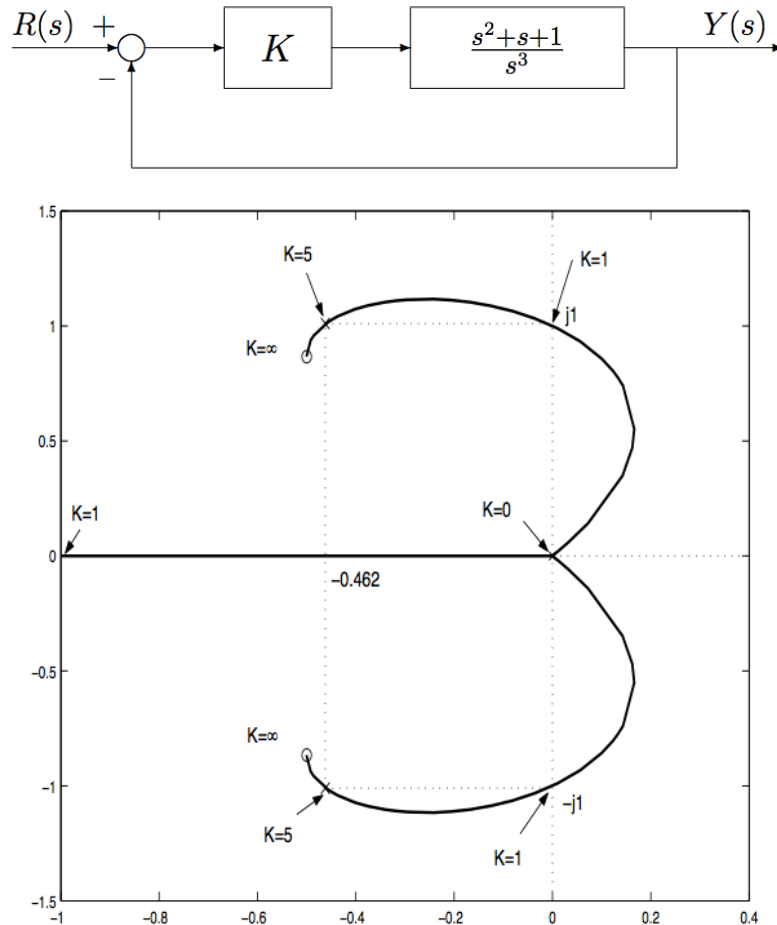

Figure 2: Closed loop system and its root locus
2. A closed loop system and its root locus (obtained from Matlab) are shown in Figure 2. Recall that such a plot shows the movement of the closed loop poles as K changes. Thus you find that points corresponding to various values of K have been indicated on this root locus.